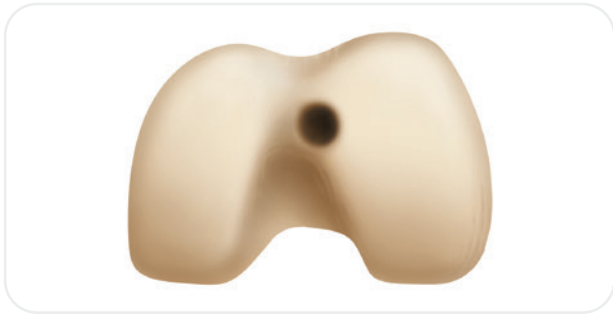

Figure 2
1. Open the femoral canal with the 9.5mm Intramedullary Drill. The drill has a 12mm step to open the entry point further. If desired, use the drill to open the tibial canal at this step (**Figure 2**).